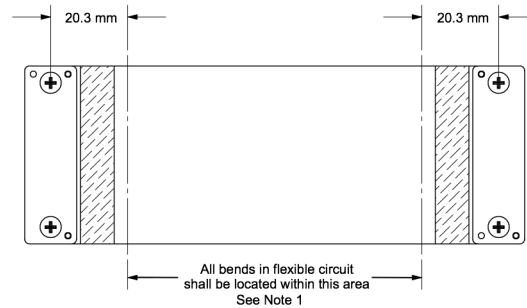

Figure 1-11. Flex Cable Diagram
- Bending the cable outside the area identified in Figure 1-11 (within 20.3 mm of connector plate centers).